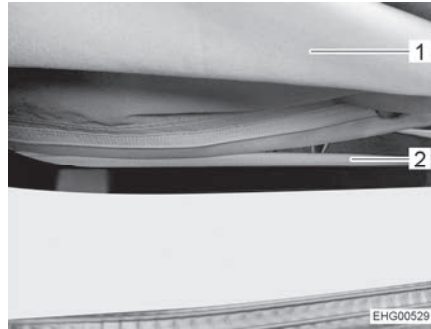

Fig. 47 Zip
- Fully open the zip (Fig. 47,2) on the underside of the bellows (Fig. 47,1).